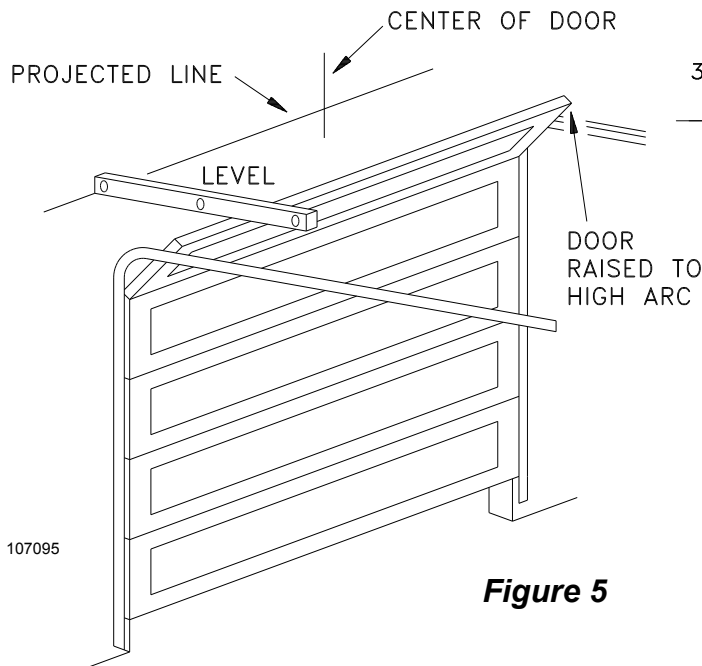

Figure 5
- 2) Slowly raise the garage door and observe the action of the top section. When the top section reaches the highest point (high arc), use a level and project a line from this point to the center of the door. See Figure 5.